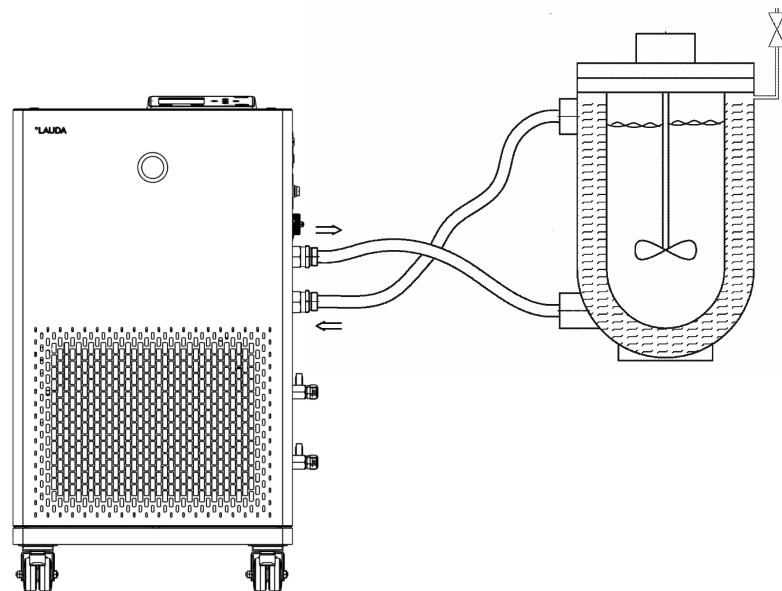

Fig. 11: Connection diagram with vent valve
- Depending on the type of application, a vent valve can significantly simplify the aeration process. The vent valve must be located at the highest point of the circuit (Fig. 11).
The external application must be connected according to the sketch (Fig. 11) so that gas/vapor bubbles can be removed from the system and undisturbed operation is possible. The outflow of the pump must be connected to the lower connection of the application. The return line to the pump connector must be connected to the top connection of the application. The application is thus flowed through from bottom to top.